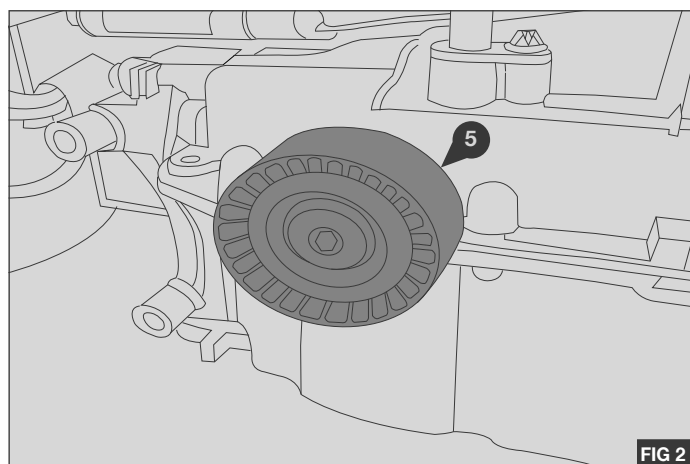
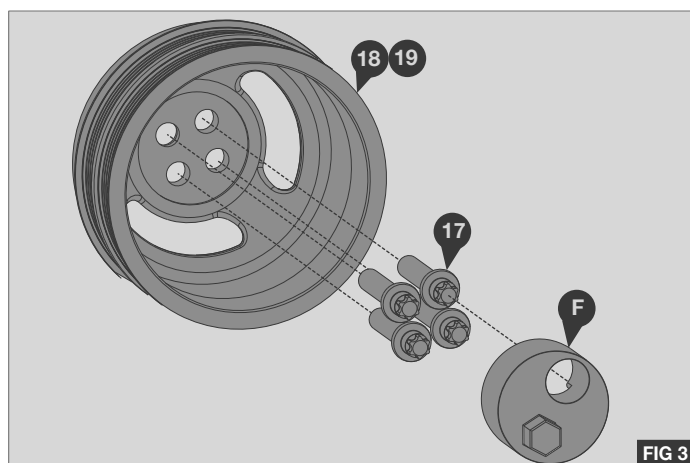

FIG 2
FIG 3
**NB:** Crankshaft locking tool is required for this operation (Mercedes tool No 651 589 00 40 00) (F) - Fig 3
4. Remove and discard original crank pulley (E)
5. Using the supplied pulley (5) cut a thread into the hole on the engine casing - Fig 2
**NB:** The pulley bolt has a Trilobular thread and will cut the thread - Fig 2
6. Remove the supplied pulley (5)
1. Fit new crankshaft pulley (18) or (19) (Not Supplied and dependant on the engine power rating) with new bolts (17) (Not supplied) - Fig 3
2. Torque bolts (17) to 80 Nm / 59 lb ft + 90